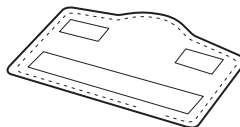

Fig. 33
- 1 We recommend washing your cleaning pad separately from other fabrics to avoid picking up lint. **Only use liquid detergent (no powder detergent) or bleach.** Line dry or dry on a low dryer setting. (Fig. 33)